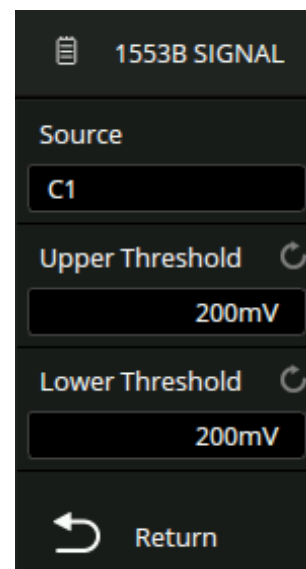

Figure 10.46
1. The **MIL-STD-1553B** menu will be displayed. (Figure 10.46)